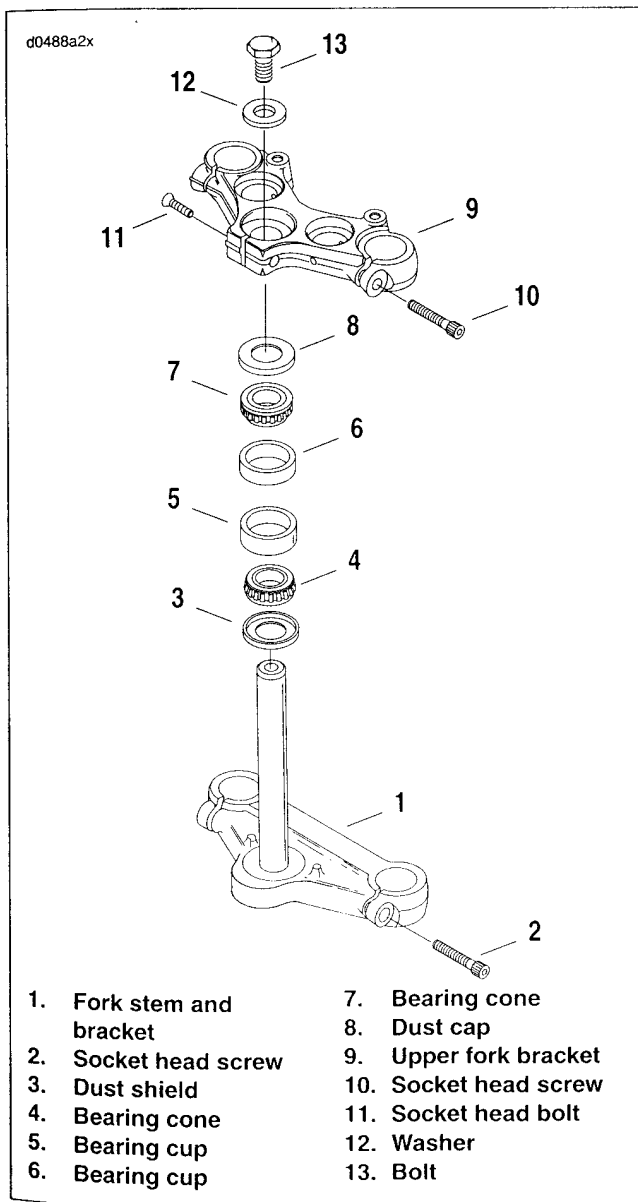
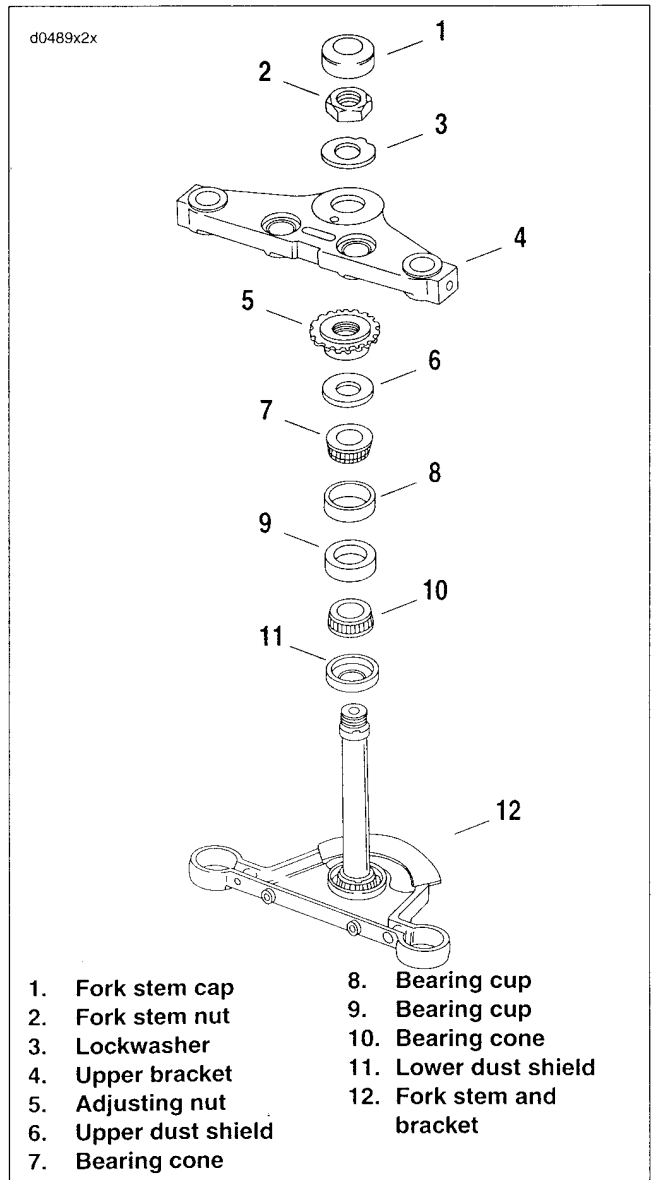

Figure 2-101. FXDL Style Steering Head
Figure 2-102. FXDWG Steering Head
2. See Figure 2-101. Remove bolt (13), washer (12) and loosen socket head bolt (11). Lift handlebars from steering head with upper bracket (9) attached. Be careful not to pinch or kink control cables.
3. Remove dust cap (8) and bearing cone (7). Slide fork stem and bracket (1) from frame.
4. See Figure 2-102. Remove the fork stem cap (1). Bend the lockwasher tab away from the fork stem nut (2) and remove the fork stem nut with the handlebar and upper bracket (4).
5. Remove the adjusting nut (5) and pull the fork stem and bracket (12) out of the steering head. Remove the upper dust shield (6).
- If necessary, remove bearing cups (FXDL style items 5, 6 in Figure 2-101./FXDWG items 8,9 in Figure 2-102.) using the same tools. **If bearing cups are removed, the bearings cannot be reused. They must be replaced.**
- See Figure 2-101. Insert the fork stem and bracket (1) into steering head of frame. Install the bearing (7) and dust cap (8).
- See Figure 2-102. Insert the stem and bracket assembly into the frame steering head and install the upper bearing and dust shield (6). Secure with the adjusting nut (5). Tighten the bearing seat until the bearings have no noticeable shake. Fork stem must turn freely from side to side.
- Install upper bracket (4), a **new** lockwasher (3) and fork stem nut (2). Be sure pin on lockwasher registers in upper bracket hole. Tighten nut securely. Tighten upper bracket pinch screws to 21-27 ft-lbs (28.5-36.6 Nm).
- Tighten fork stem nut to 35-40 ft-lbs (47-54 Nm). Bend the lockwasher tab against the nut (2) flat.